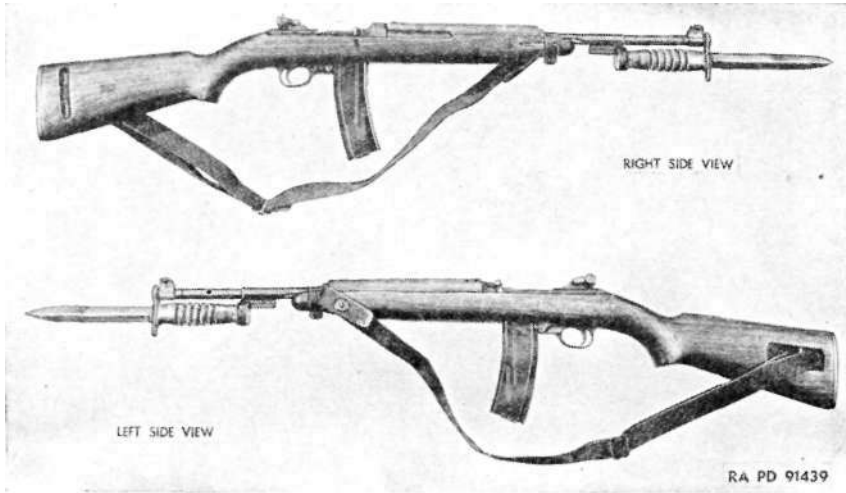

Figure 3. Carbine, cal. .30, M2.
c. CARBINE, CAL. .30, M2 (fig. 3). (1) This model is almost identical with the carbine, cal. .30, M1, except for a number of parts which have been modified, redesigned, or added, to produce a carbine which can be fired either in semiautomatic or fullautomatic position, through the use of the selector. When fired in fullautomatic, the rate of fire is